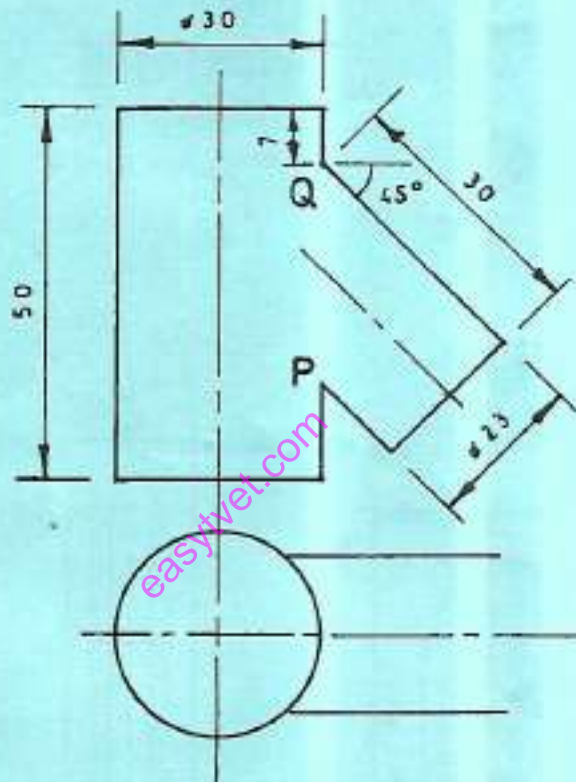

Fig. 2
2. Figure 2 shows incomplete front and plan views of two unequal cylindrical pipes intersecting each other. Draw the following from the figure: